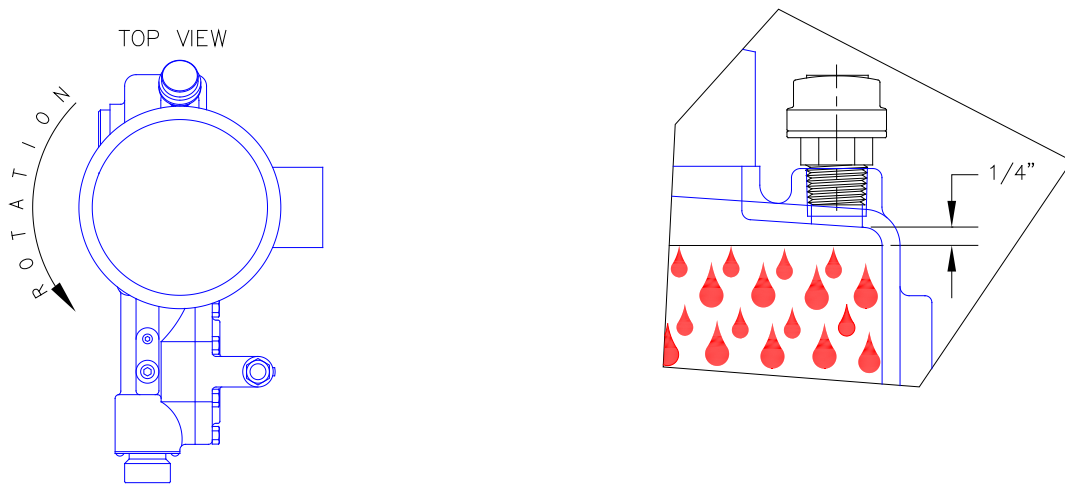

FIGURE 1
- 1.0.10 The electrical supply to the pump must match the motor name plate characteristics. The motor rotation is counter clockwise when viewed from the top of the motor, looking down on the pump. (See Figure 1 on page #5).
Please note Figure 1 on page #5 indicating the correct rotation. (An arrow on the gear box also indicates proper rotation). Operation with the incorrect rotation will damage the pump and motor.
Under normal conditions, the “dia-PUMP” does not require any significant amount of maintenance. It is advised that periodic visual observations be made of the oil level to make sure that it is within limit (see fig 1, page#5). The liquid end of the pump should also be inspected for leakage. These observations should be made regularly, at least every 48 hours.